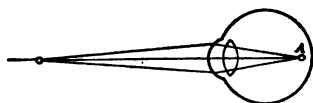

FIG. 431. — Short-sighted eye.
**455. Imperfections of the eye.** In the short-sighted eye the image of a distant object is formed in front of the retina (at *A*, in figure 431). This may be due to too great convexity in the crystalline lens, or to the oval shape of the eyeball. A person who is short-sighted must bring objects close to the eye to see them distinctly.